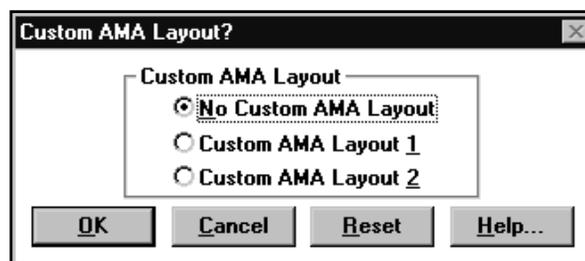

FIGURE 103. Example of Custom AMA Layout dialog box
1. To select a custom AMA layout when the record is sent to the DMS switch, select Custom AMA Layout in the configuration window. (See Figure 103.)